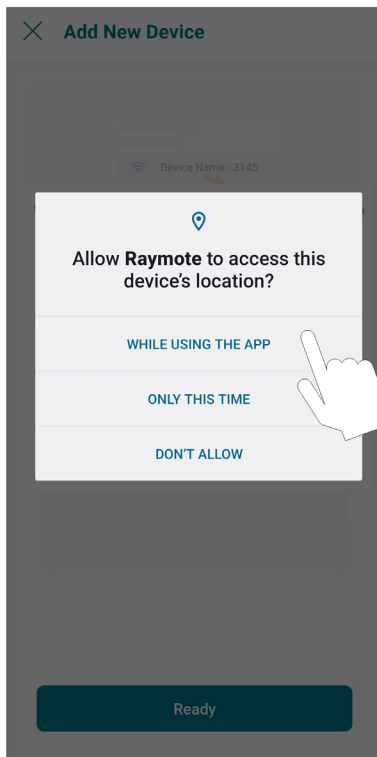

Figure 75. Grant Permission
**NOTE:** The first time you use a new phone, the Raymote mobile app may require you grant permission to access data. See Figure 75.